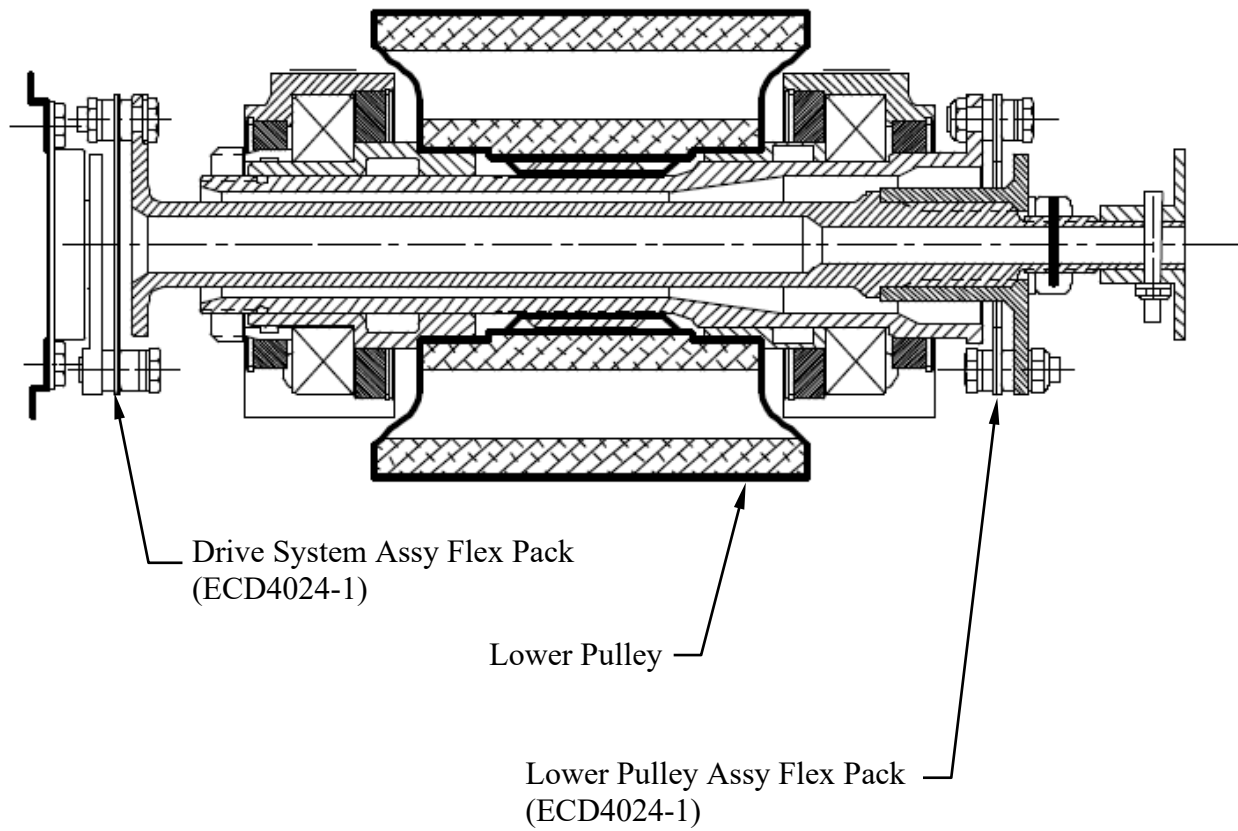

Figure 1.
3. When reassembling the aft coupling for alignment, all three spacers on the front side of the flex pack must be of equal thickness, and all three spacers on the aft side of the flex pack must be of equal thickness (See Figure 1).